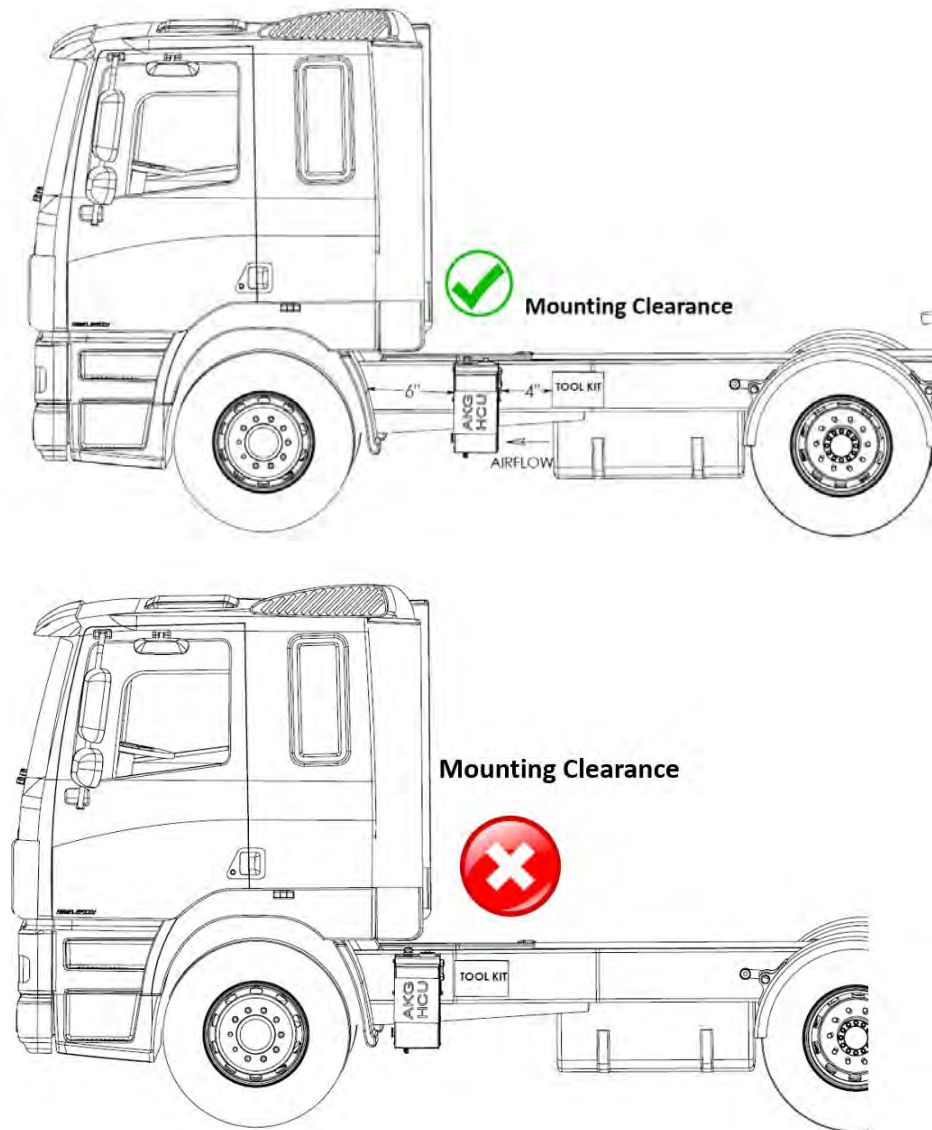

Figure 2A Mounting Clearance for Airflow
1. A minimum clearance of 4" at the inlet and 6" at the outlet is required on the HCU to allow uniform airflow distribution across the cooler. This will also avoid any hot air re-circulation in the application. Please refer to figure 2A.